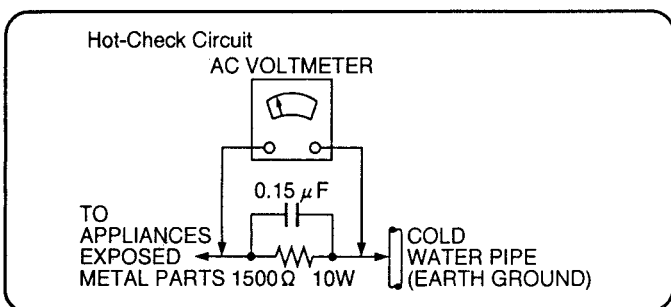

Figure 1
LEAKAGE CURRENT HOT CHECK (See Figure 1.)
2. Connect a $1.5\text{k}\Omega$, 10 watts resistor, in parallel with a $0.15\mu\text{F}$ capacitors, between each exposed metallic part on the set and a good earth ground such as a water pipe, as shown in Figure 1.